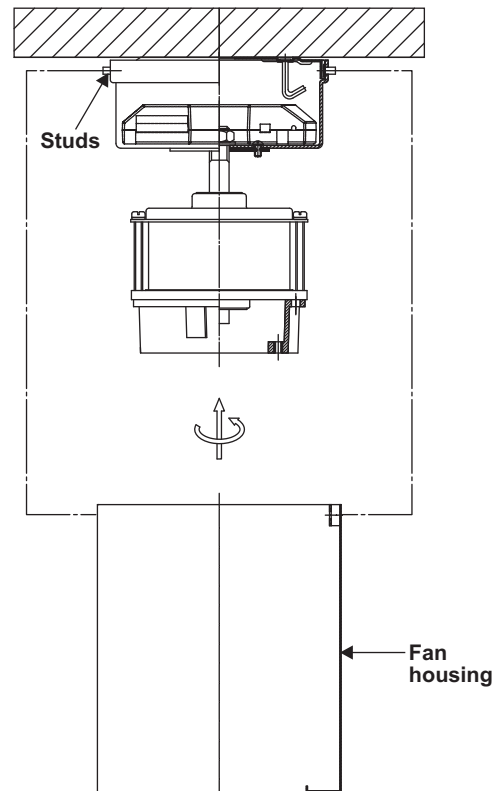

Figure 10
Step 3. Raise the fan housing up against the mounting bracket. The four supports inside the fan housing should be placed against the four studs on the mounting bracket. Twist the fan housing clockwise until snug. (Fig. 10)